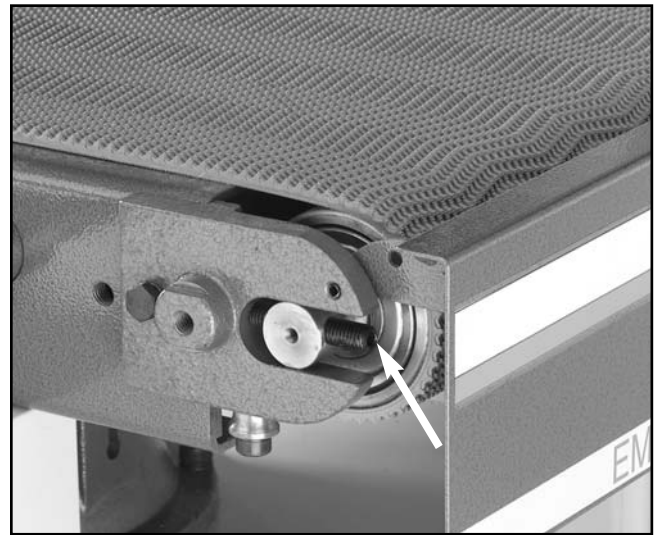

Figure 26. This is a feed belt adjustment bolt.
3. Tension adjustments are made using the bolts located on the left and right side of the front conveyor roller as shown in **Figure 26**.
2. Use the adjustment bolts (one is shown in **Figure 26**) to correct the tracking.